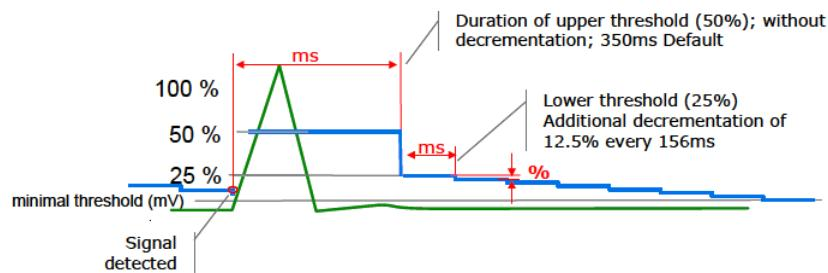

Figure 72: Automatic Sensitivity Control (ASC) in the atrium
The Acticor ProMRI® VR-T DX and HF-T ICDs have two sensitivity settings in the atrium: Standard and OFF. The Standard atrial setting is recommended for all patients and works similarly to the ventricular Standard setting. In the Standard setting, each P-wave is tracked and used to reset the upper and lower thresholds. Figure 72 shows an example of atrial ASC. The upper threshold (UT) is set to 50% of the peak P-wave amplitude. The Upper threshold after sense/pace is fixed at 350 ms. Following the Hold of upper threshold, sensing decreases to the lower threshold (LT), which is equal to 25% of the measured P-wave. The lower threshold (LT) decays 12.5% every 156 ms until the Minimum Threshold is reached or until the next event, sensed or paced.